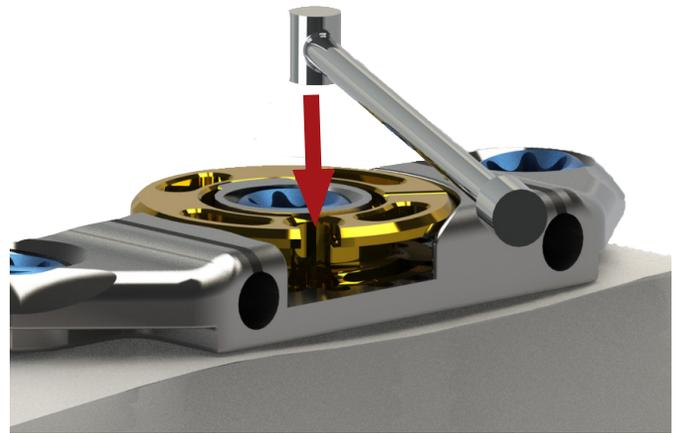

figure 9: Locking Element inserted into Ratchet Wheel
- Insert the vertical barbell end of the Locking Element into the Posi-Lock™ Ratchet Wheel capture receptacle (*figure 9*). Gently pull on the opposite end of the Locking Element to ensure that it is properly seated into the ratchet wheel capture receptacle. To ensure complete capture of the Locking Element, place the Ratchet Driver securely onto the Posi-Lock™ Ratchet Wheel and gently turn the wheel clockwise one click. Repeat this step if multiple Grand Pre implants are being utilized.